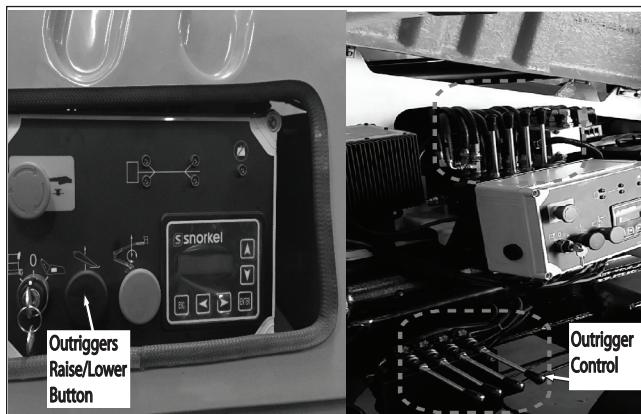

Figure 10.1 – Outrigger Operation
4. Raise the outriggers by simultaneously pressing down on the 'Outrigger raise/lower button' and using the appropriate control levers, two at a time until the road wheels are in contact with the ground (refer to Figure 10.1).